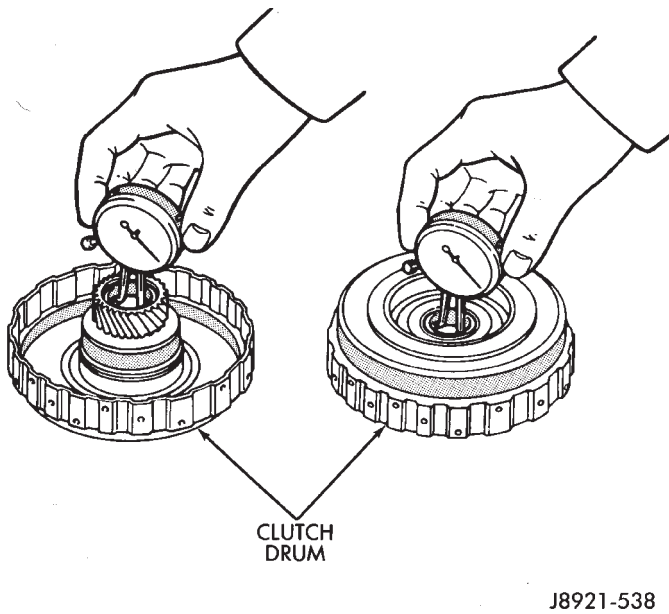

Fig. 18 Checking Clutch Drum Bushings
(20) Check inside diameter of clutch drum bushings with bore gauge or inside micrometer (Fig. 18). Maximum inside diameter is 27.11 mm (1.0673 in.). Replace drum if bushing inside diameter is greater than specified.